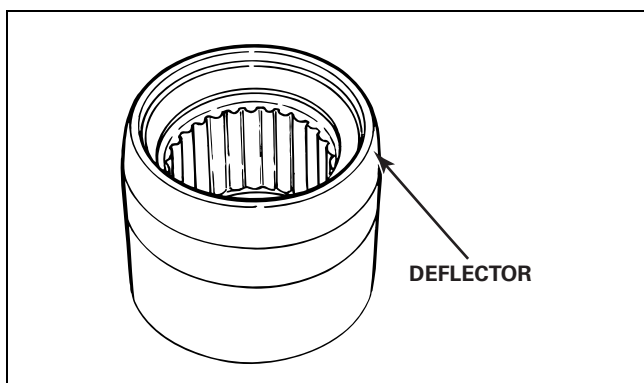

Figure 4.32
3. Verify that the plastic deflectors are attached to the round bushings. Figure 4.32.